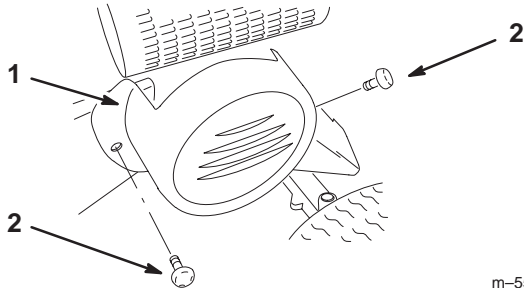

Figure 16
14. Install belt cover (Fig. 16).
2. Remove the two knobs and belt cover from the tractor (Fig. 16).